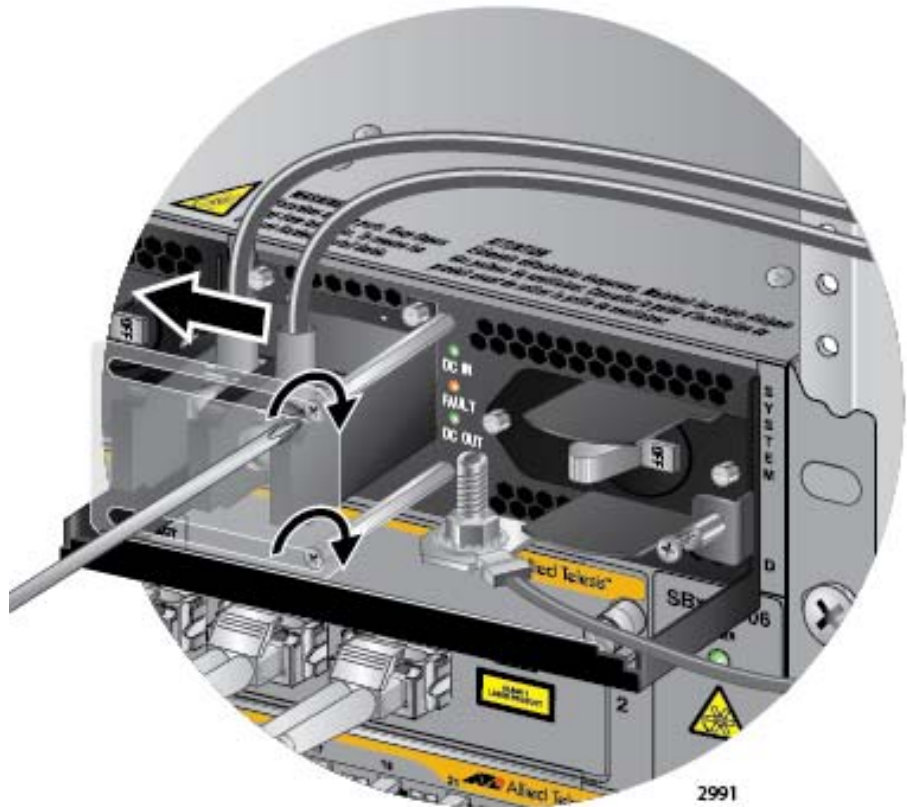

Figure 138. Closing the Plastic Cover over the Terminal Connectors
8. Slide the plastic cover to the left and lightly tighten the two screws with a #1 Phillips-head screwdriver to secure the cover. See Figure 138 on page 211. You might need to slightly lift the locking handle to access the bottom screw.
6. Slide the plastic cover to the left and lightly tighten the two screws with a #1 Phillips-head screwdriver to secure the cover. See Figure 138 on page 211. You might need to slightly lift the locking handle to access the bottom screw.